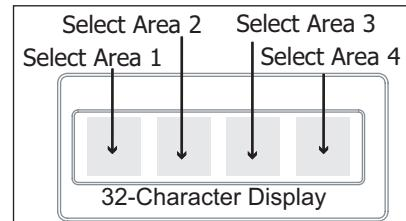

Figure 7: Graphic Touchscreen Select Areas
**Note:** On Wireless, Thinline and Aqualite keypads, when instructed to press the first select key, press the far left select key; the second select key is the second from the left; third select key is second from the right; and the fourth select key is the far right key. See Figure 7.
On Graphic Touchscreen Keypads, when instructed to press the first select key, touch select area 1; the second select key touch select area 2; third select key touch select area 3; and the fourth select key touch select area 4. See Figure 7.